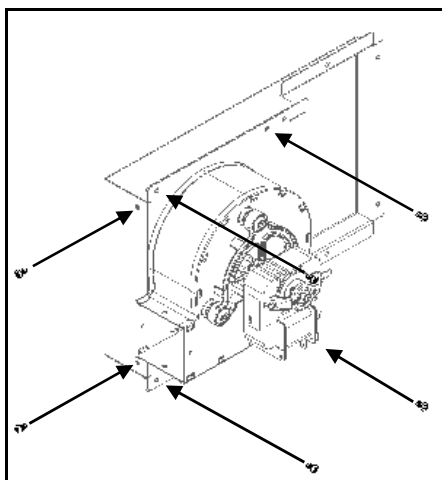

Figure 124 – Securing the support bracket to the ventilator
d) Screw the Figure 124 assembly into the side face of the combustion chamber using 6 screws A (DIN 7981 FA 4,2x13) into the holes provided for this purpose.